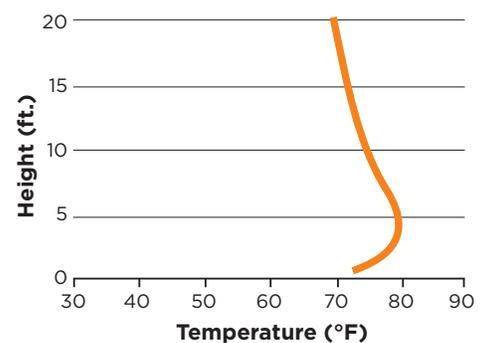
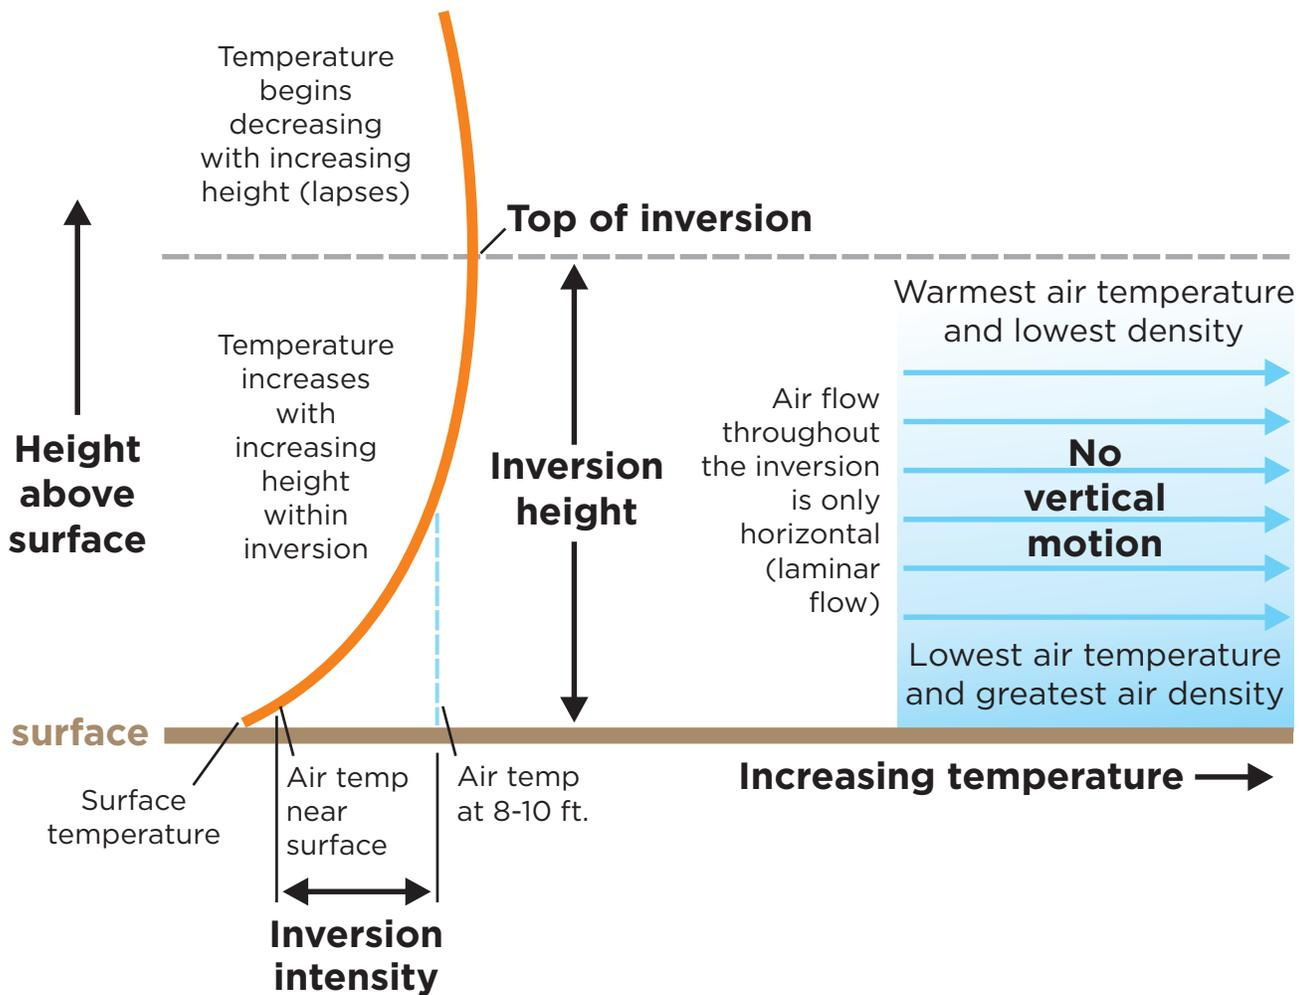

Figure 4. Typical air temperature profile when an inversion begins developing before sunset on a calm, clear evening
Figure 6. Diagram of an inversion's temperature profile, height, intensity, density stratification and its air motion near the surface
Air temperature measured at various heights near the surface during a clear night shows that the air temperature nearest the surface is always the coldest. And at each greater height, air temperature is greater than the temperature at the next lowest height (**Figure 4**) up to top of inversion (**Figure 6, Page 7**).
Air density continuously **decreases** with increasing height during an inversion because the air temperature **increases** with increasing height above the surface. This causes a density stratification of the air, with the densest or heaviest air near the surface and the density decreasing with increasing height. As a result, air can move only horizontally within the inversion (Figure 6). This is called **laminar flow** because it's similar to the laminations in a sheet of plywood.
**Inversion intensity** is defined for our purposes as the air temperature difference between two heights above the Earth's surface or the top of a crop canopy (**Figure 6**).
**Inversion height** is the total thickness or height of the cooled inversion air layer. Because air temperature increases with height in the inversion, the top of the inversion is the height at which the air temperature stops increasing. Above this layer, air temperature begins to decrease with increasing height (**Figure 6**).
In this case, an inversion is described as a surface cold air mass extending upward to an unknown height, with a mass of warm air directly above it. Supposedly this warm air mass prevents vertical air movement in the cold air. This is simply wrong! In reality, the coldest air is next to the surface, and the air temperature steadily increases with height in the lower atmosphere, just as explained in the last section. Because the lowest air has the greatest density and density decreases with height, the density stratification of the air prevents vertical air motion in the absence of wind. (Figure 6.)